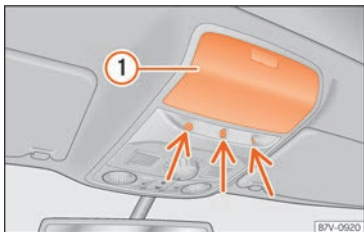

Fig. 135 On the roof console: interior monitoring sensors.
Close the storage compartment » **Fig. 135** ① on the roof console, otherwise the interior monitoring function (arrow) is not guaranteed to work freely.